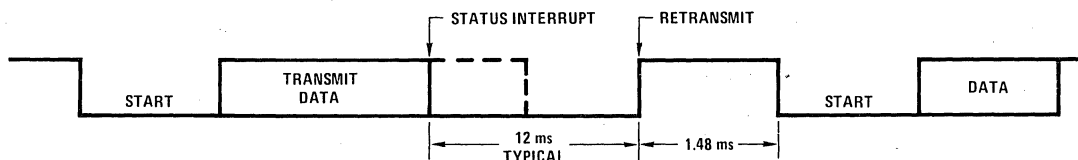

FIGURE 4. Transmit Output and Interrupt Timing
In the event the MM57499 is transmitting a character and, at some time during that process a status word update is sent to the MM57499, an interrupt in the transmit stream will occur. The transmit output pin will drop to a logical low and remain in that state until the received word is processed. Once a break has been detected, the processor can determine that the data is not valid. The MM57499 will process the received word and retransmit the interrupted character. If the receiver status option is not utilized, normal operation (without interrupts) will occur (see Figure 4 for transmit out and interrupt timing).
The status latches may be used for various applications. An 8-bit word with start and stop bits is received and then clocked into the status latch immediately. If an invalid word is received (i.e., no stop bit) the MM57499 will revert to the previous valid status word and clock it into the status latch. The detection of the leading edge of a start bit on the receive line (pin 15) causes all other operations within the MM57499 to cease until the status word has been received and latched. Should the MM57499 be processing a key when a status word is sent, the operation is restarted after the status word is received by the MM57499. If the MM57499 is transmitting a word when a valid status start bit is received, the transmit line drops to a logical "0" (low) to denote a break (00). After the receive is completed, the MM57499 will retransmit the interrupted character in its entirety (see Figure 4).